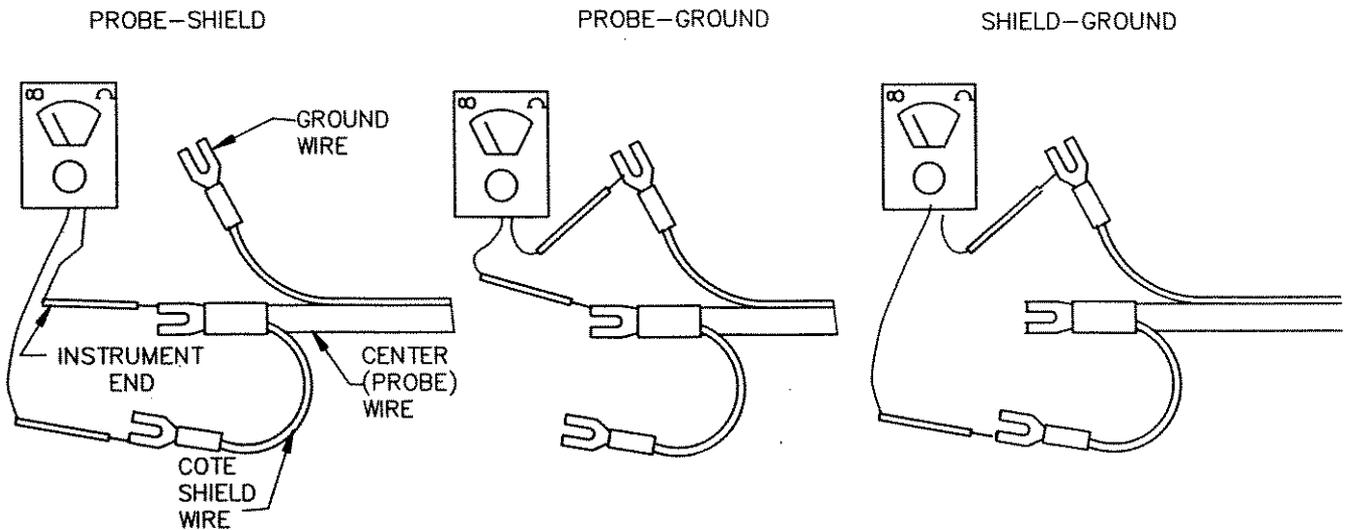

Figure 6-7
- C. With the Step Span control in position #1 and the Fine Span control fully clockwise (CW), adjust the Fine Zero control for an output of 0% (4mA).
- A. With the sensing element out of the mounting track, disconnect the cable from the electronic unit. Use an analog ohmmeter to measure the resistance between the sensing element terminals. See Figure 6-7.